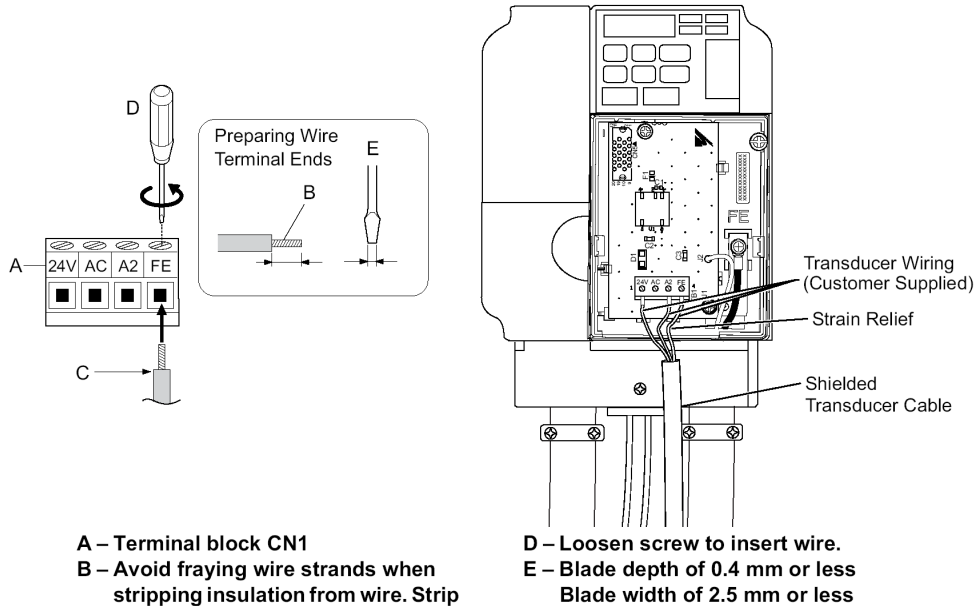

Figure 1.10 24V Power Supply Wiring Guide
5.21 Connect transducer wiring to the 24V Power Supply terminals using Figure 1.10 as a guide.